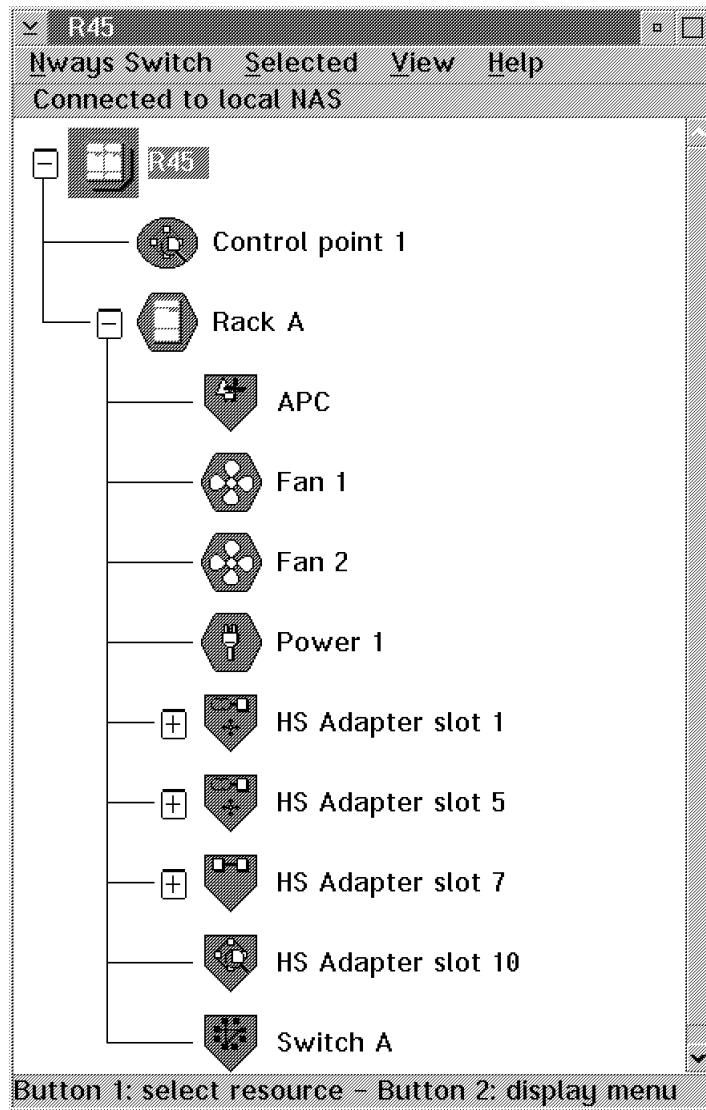

Figure 4-3. Nways Switch Resource Control Window
- From the window displayed using the icon/option get the **Nways Switch Resource Control** window with all the resource icon displayed (see Figure 4-3).
- From the window displayed using the icon/option get the **Nways Switch Resource Control** window with all the resource icon displayed (see Figure 4-3 on page 4-3).